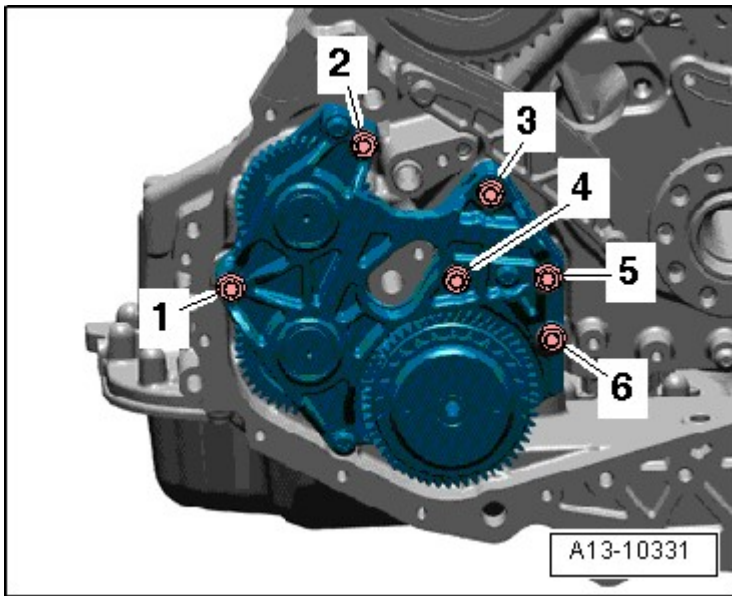

Fig. 12: Identifying Spur Gear Unit Tightening Sequence
- Tightening specification and sequence, refer to **Fig. 12**